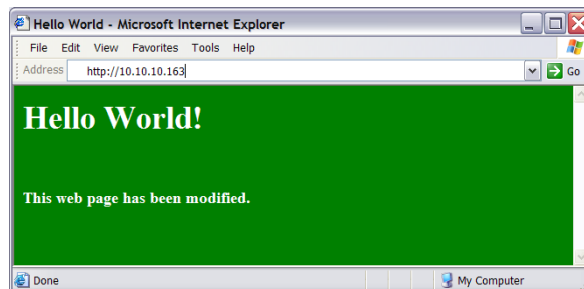

Figure 29. Embedded Web Server with Modified Content
5. The updated web page stored inside the MCU should be displayed on the screen as shown in Figure 29.